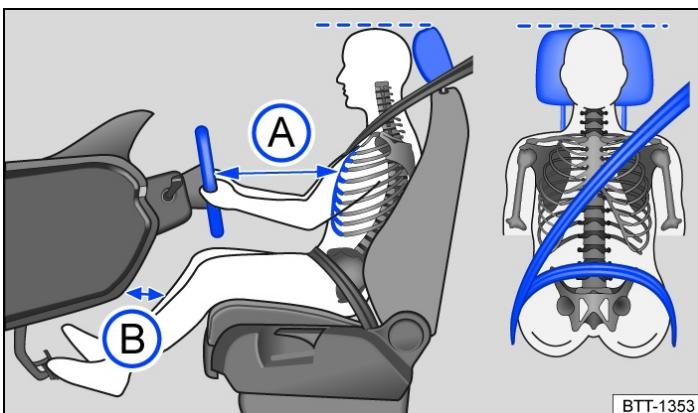

Fig. 1 Schematic diagram: Correct distance between the driver and the steering wheel, correct seat belt routing and correct head restraint adjustment.
- Adjust the head restraint so that its upper edge is at the same height as the top of the head, but not lower than eye level. Position the back of your head as close to the head restraint as possible at all times → *Fig. 1*.